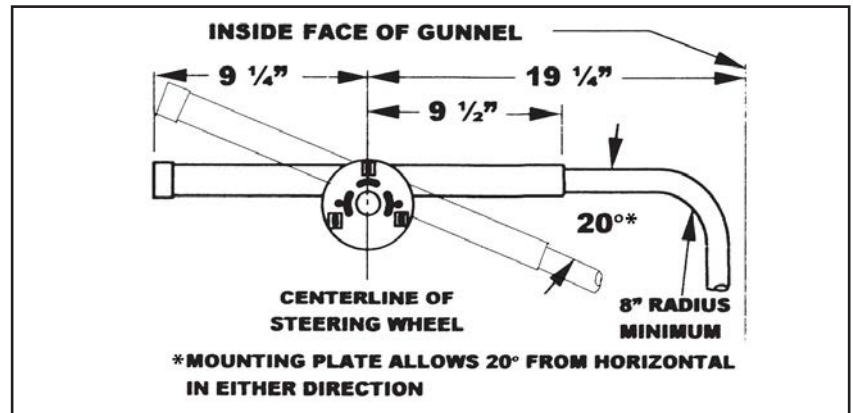
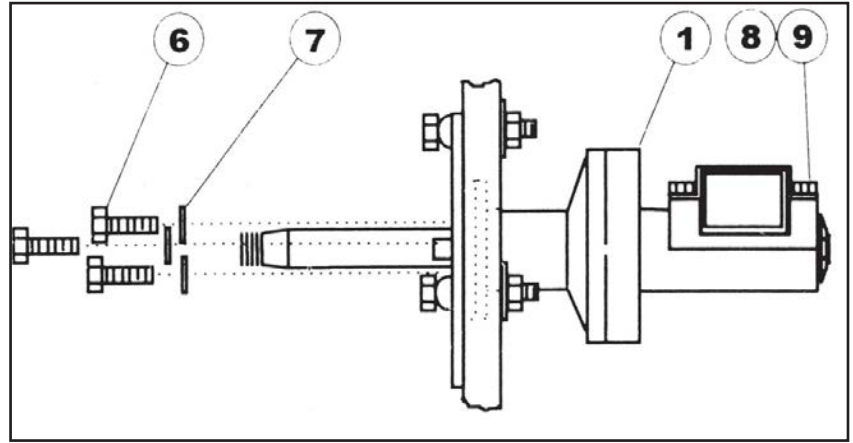

Figure 1.
Figure 4.
**Ensure that the clearances shown on Figures 1 and 2 are maintained. Ensure that the steering wheel does not interfere with other dashboard equipment such as engine controls and instruments.**
**STEP 3.** Attach the helm and cable assembly to the helm mounting plate, using three bolts (item 6) and washers (item 7) supplied with the SB39544P Bezel Kit (see Figure 4). If required, the helm and cable assembly can be angled 20° from horizontal in either direction by rotating the helm and cable assembly in the mounting plate slots before tightening (see Figure 1). Tighten bolts securely after positioning helm.